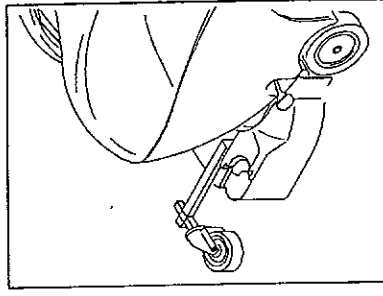

Fig. 9c
- turn the wheel unit around 90° as shown in fig. 9c;